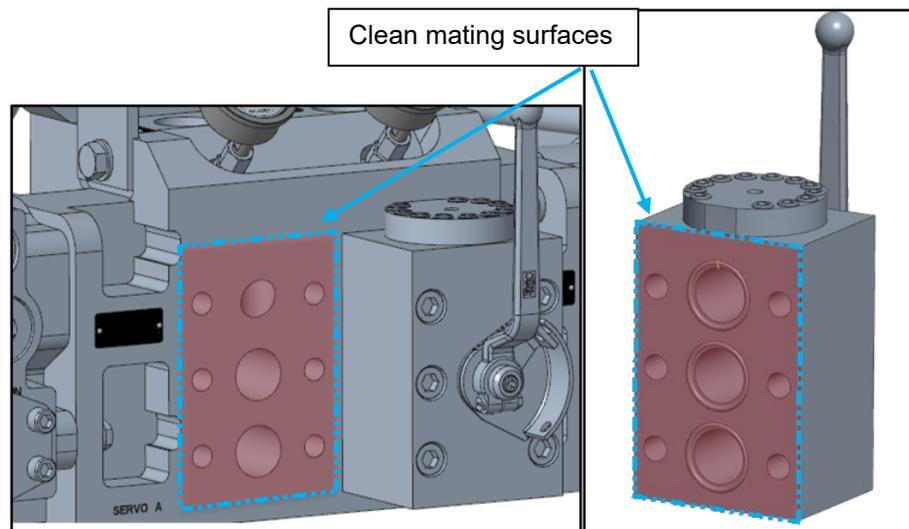

Figure 3-8. Isolation Valve Mating Surfaces Cleaning
4. Clean connection interface surfaces using Isopropyl alcohol (Figure 3-8).